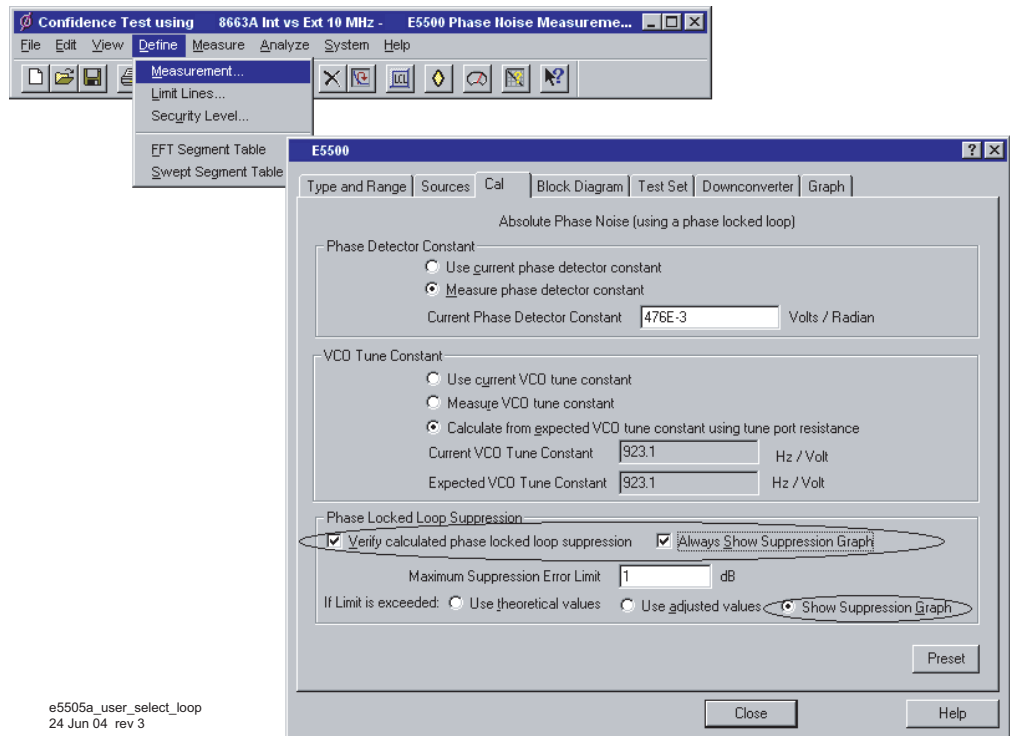

Figure 100 Selecting loop suppression verification
- 1 Using Figure 100 on page 149 as a guide, navigate to the **Cal** tab.